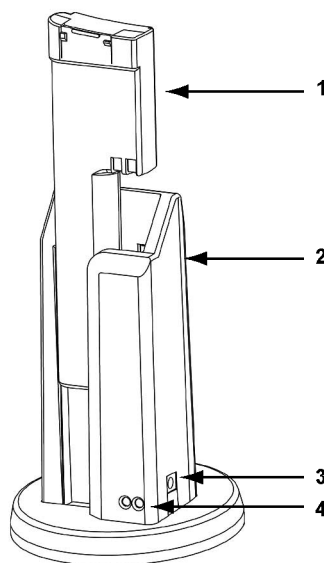

Figure 3-5 Battery pack charge orientation
3. Vertically insert the battery pack into the charger (Figure 3-5).